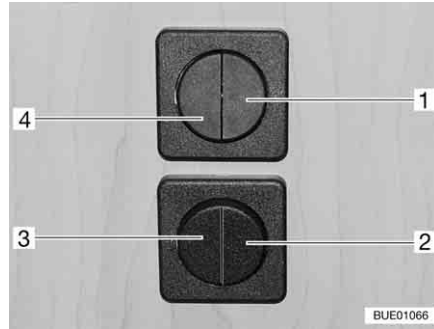

Fig. 51 Light switch
- Seating group lights (Fig. 51,1)
- Entrance lights (Fig. 51,2)
- Awning lights (Fig. 51,3)
- Living area lights (Fig. 51,4)